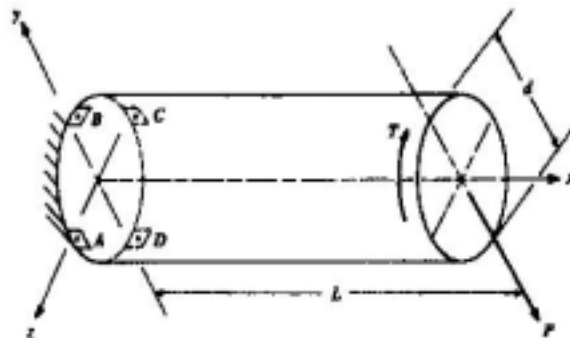

Fig.4
4. The beam shown in Fig.4 is fixed at one end and loaded at the other end with a transverse load P and a torque T . Neglecting the inaccuracies in the stress formulations at the support end, determine the state of stress at point A , B , C , and D . [$I_x = \pi d^4/64$] (25%)